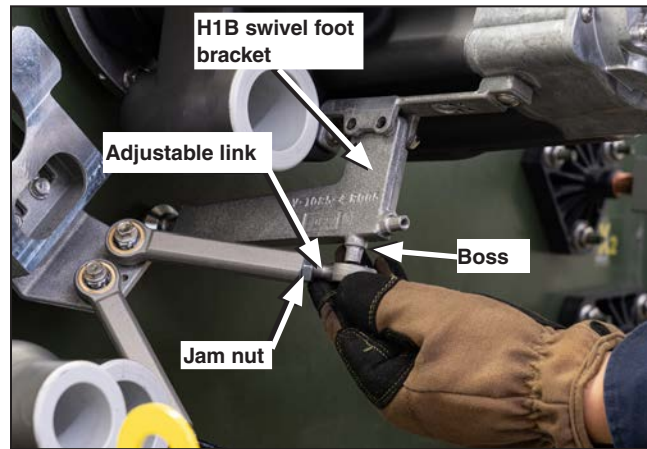

Figure 20. The support strut before installing to the boss.
- STEP 1.** Loosen the jam nut of the adjustable link of the support strut. Adjust the length of the H1B adjustable link until the ball joint just fits onto the boss on the H1B bushing well interrupter swivel foot bracket. See Figure 20. It may be necessary to rotate the bushing well interrupter to the correct position.